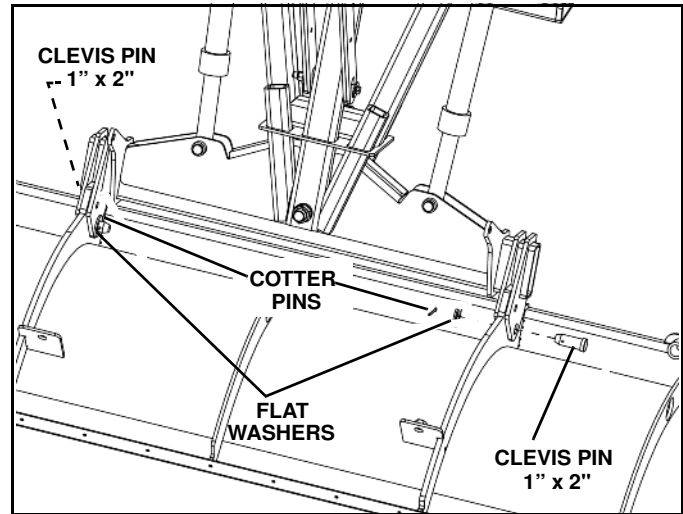

Figure 1-7
3. Remove swing frame from box. Place swing frame on blade and insert two 1" x 2" clevis pins from blade parts bag. The ribs on either side of the center rib should be between the swing frame lugs. (See Figure 1-7)